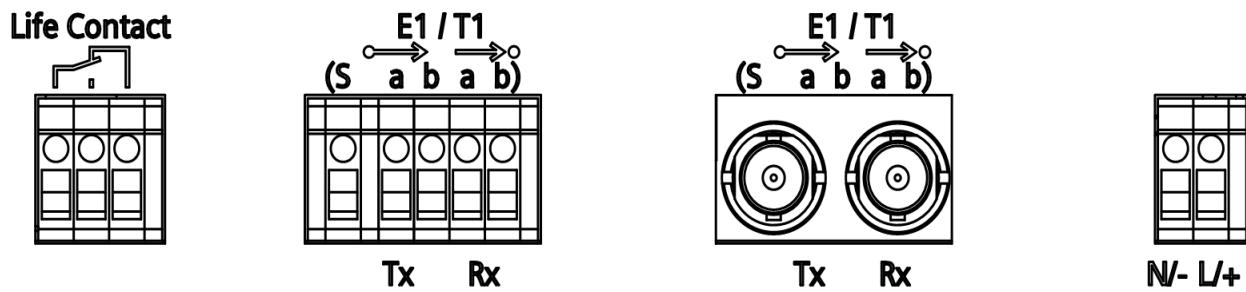

Figure 21 Terminal blocks
- **E1/T1:** For 7XV5662-0AD00, the signals of the E1/T1 interface must be routed to the 4-pole screw-type terminal (E1/T1) (a rising and clearing core pair each). The screw-type terminal on the left (S) is used for the connection of the cable shield and is connected to the housing. For 7XV5662-0AD01, the signals of the E1/T1 interface must be generated via the BNC connections intended for this. The signals of the E1/T1 interface are galvanically separated from the other circuits. No additional interval is necessary. The interval is obtained from the SDH/PDH network via the receive direction and is also used for sending the data.
- **GOK (DR):** The device ready contact is routed to three device terminals. The drawing of the terminals on Figure 21 shows the idle state. Under the following conditions the DR-Contact gets active:
The following connections are present (s. Figure 21):